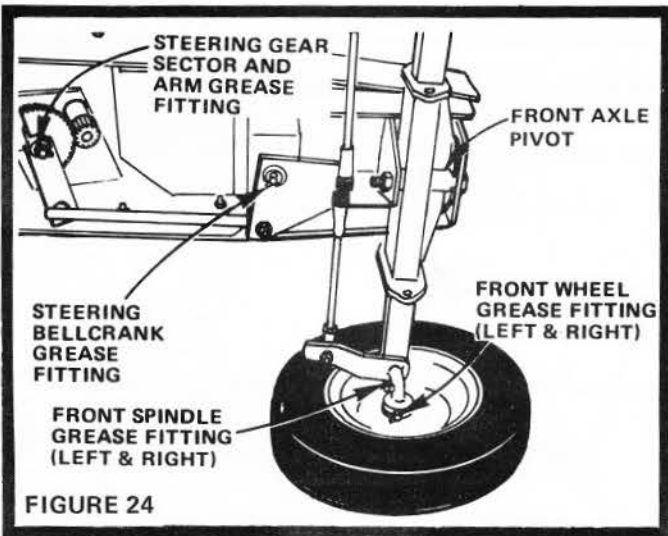

FIGURE 24
There are six Grease Fittings on your Tractor (Fig. 24). Using a Grease Gun, give each Grease Fitting two shots of Extreme Pressure Lubricating Grease Amdex No. 1 or until grease appears. This grease may be obtained by ordering Part No. 2557R through your nearest Sears repair parts department.
- Front Axle Pivot (Fig. 24).